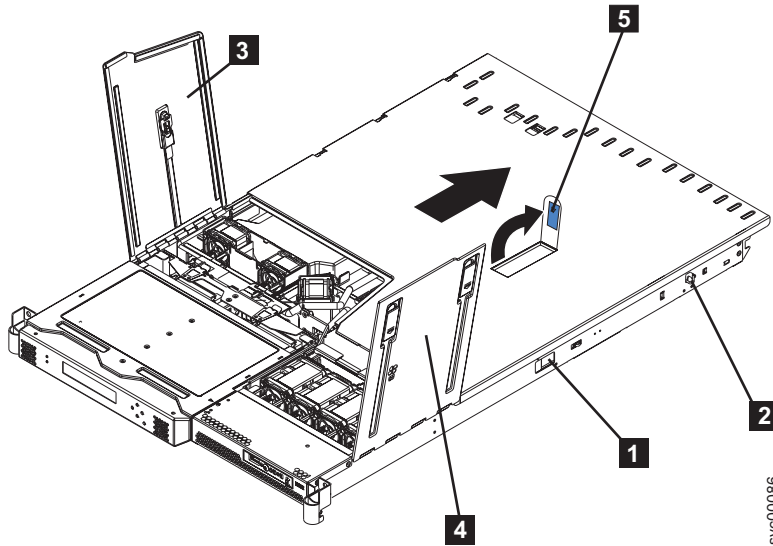

Figure 68. SAN Volume Controller 2145-8F2 or SAN Volume Controller 2145-8F4 with fan doors open
- b. Slide both side release latches (left and right) toward the front of the node. Make sure that both rail-lock pins (**2** in Figure 68) are in a vertical position, pull the node out, and remove it from the rack.